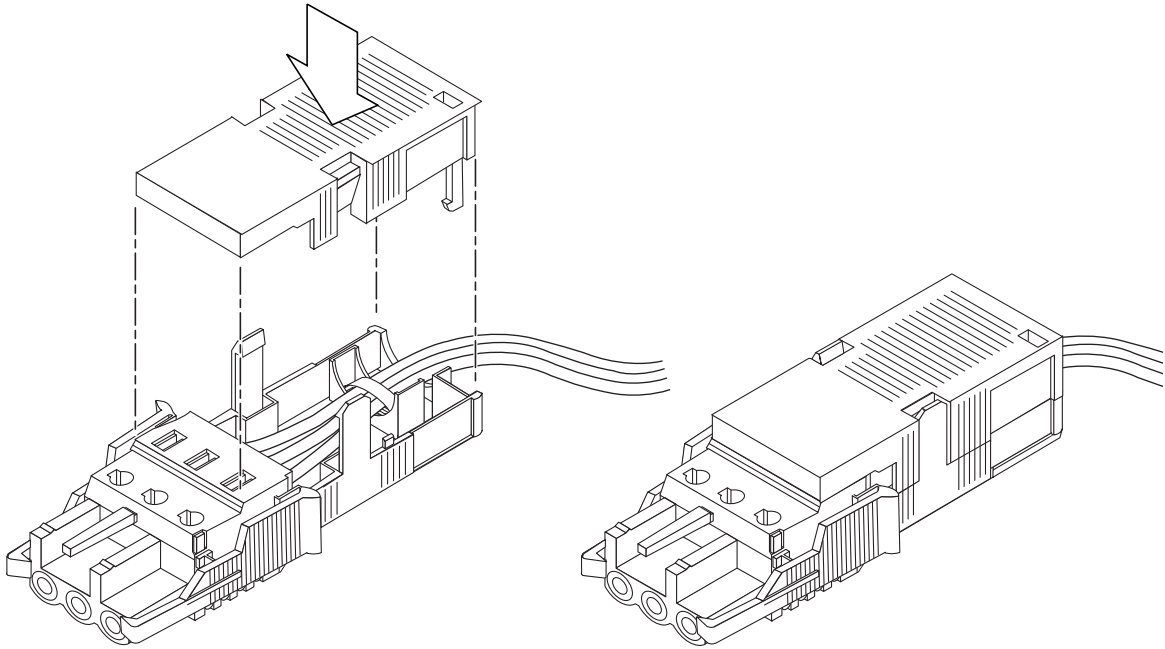

FIGURE 3-8 Assembling the Strain Relief Housing
5. Lower the top portion of the strain relief housing so that the three prongs on the top portion insert into the openings in the DC connector, and push the top and bottom portions of the strain relief housing together until they snap into place (see FIGURE 3-8).